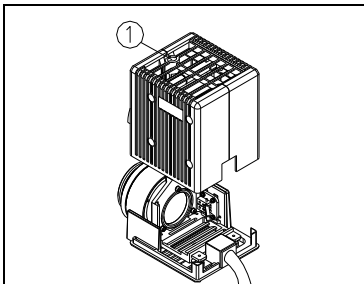

Fig. 2
(1) Loose the lock screw ① completely and take off lamp house (Fig.2).